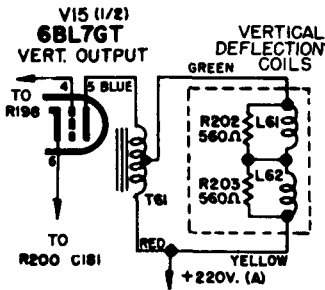

Fig. 19 — Sylvania
**Improved focus (see Fig. 19).**